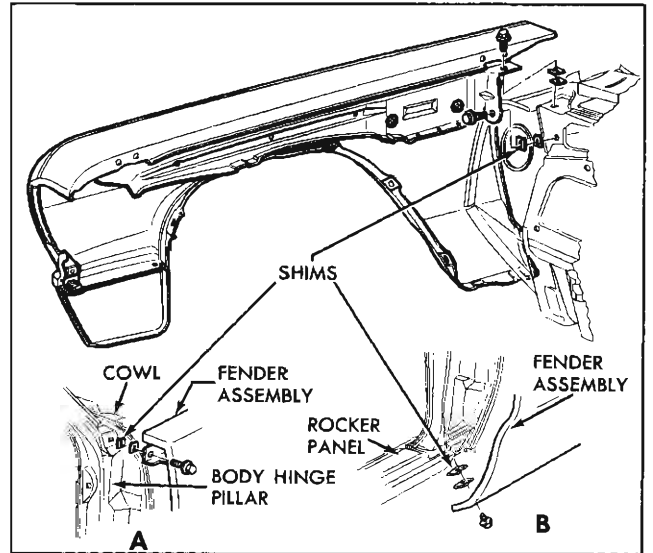

Fig. 18—Fender to Cowl and Rocker Panel Shimming
13. Remove bolts and shims from top of cowl--record shims (fig. 18).
14. Remove one lower bolt at rocker panel--record shims (See Figure 18).
15. Remove one top bolt (at door), attaching fender to cowl--record shims (See Figure 18).